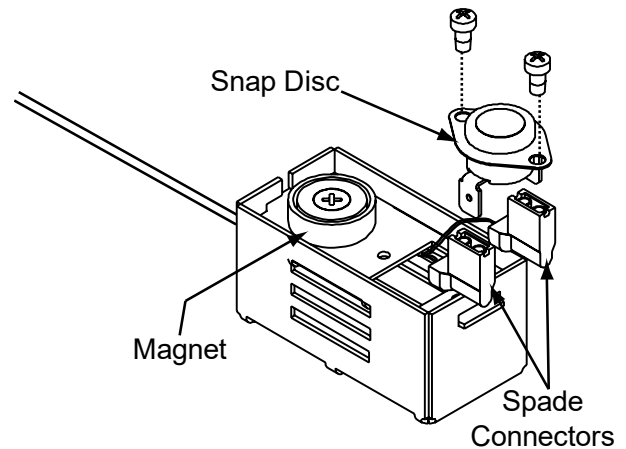

Figure 22.1
- Pull the snap disc and spade connectors up and out of bracket as shown in **Figure 22.1**